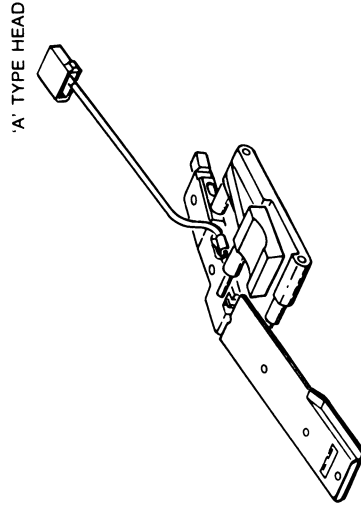
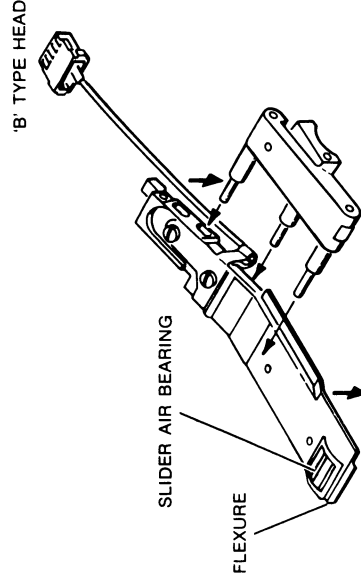

FIGURE 4-7. HEAD INSTALLATION TOOL IN 'A' TYPE HEAD
FIGURE 4-8. HEAD INSTALLATION TOOL IN 'B' TYPE HEAD
8. Grip head assembly with Head Installation Tool, as indicated in Figure 4-7 ('A' type head) or Figure 4-8 ('B' type head).
9. Close jaws of installation tool completely and remove head assembly from drive. Do not touch the slider face or press against the flexure (see Figure 4-8). Even slight pressure against the flexure could bend it; excessive pressure will damage the head's pitch and roll attitude adjustments.
- d. To hold a head assembly, grip it with the Head Installation Tool as indicated in Figure 4-7 ('A' type head) or Figure 4-8 ('B' type head).